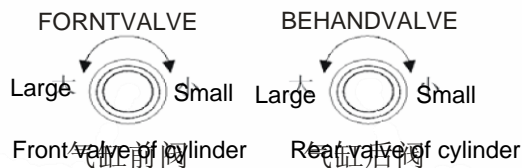

Figure 1
- (1) Connect the air source and slide the air inlet collar toward the machine.
- (2) Check whether the air pressure meter is in the specified range (roughly reading in the “12-3 o’clock” range). If not, draw the air pressure knob outwards to unlock, rotate the pressure regulator until the pressure is in the specified range (0.40.5Mpa) and push the knob back in to lock.
- (3) Use the Auto/Semiauto switch to set the filler to the desired operation method.
- (4) To make an adjustment, you can loose the locking handle on the adjustment sensor, rotate the handwheel, take note of the value on the position display and fasten the handle.
- (5) Adjust the front valve (for adjusting drawing speed) and behind valve (for adjusting filling speed) as shown in Figure 1 to get reasonable drawing and filling speed.